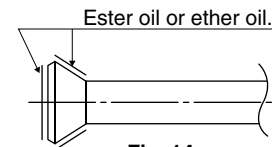

Fig. 14
- When connecting the flare nut, coat the flare section (both inside and outside) with ester oil or ether oil, rotate three or four times first, then screw in. (Refer to Fig. 14)